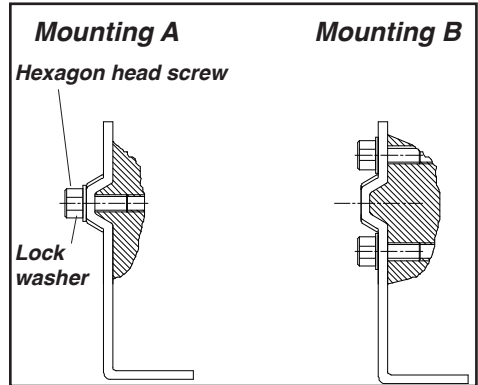

Figure 4. Yoke Actuator Mounting (according to IEC 534 part 6)
3. Loosen the follower pin and shift it along the follower arm until the control marking on the feedback gear (Figure 4) is horizontal (points to the center of the feedback potentiometer). Fasten the follower pin in this position.